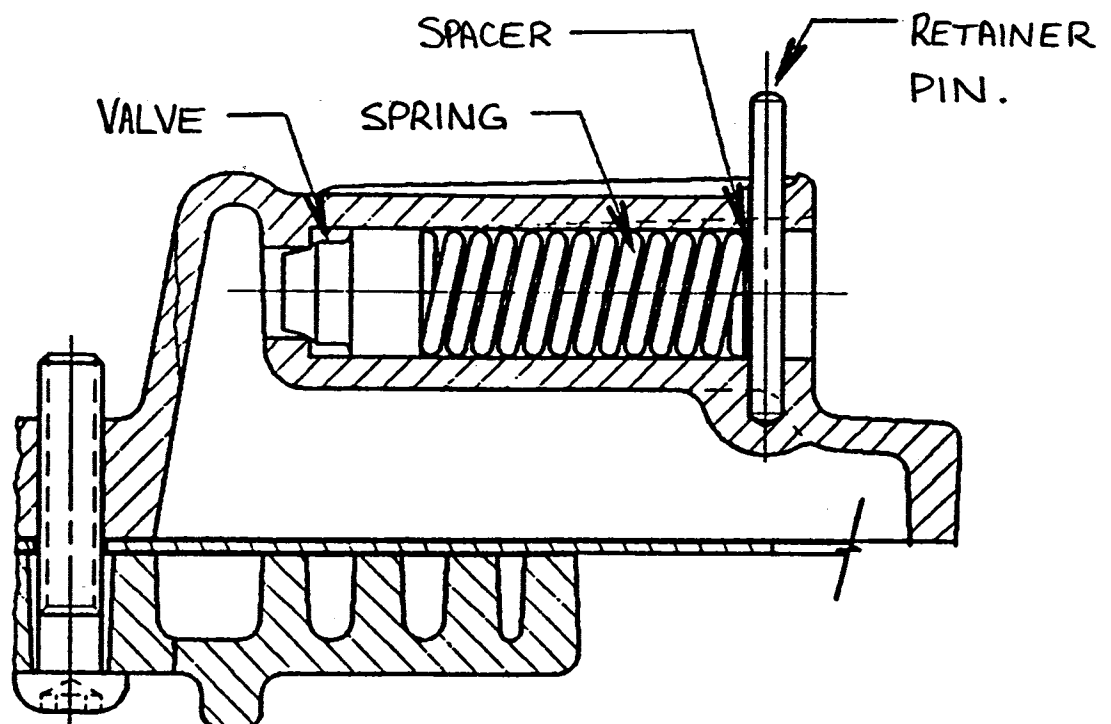

FIGURE 2: LINE RELIEF VALVE ASSEMBLY.
- d) Install valve, new spring 0585-156143 (non ground ends), 0.3mm thick spacer and retainer pin. Refer figure 2 below;